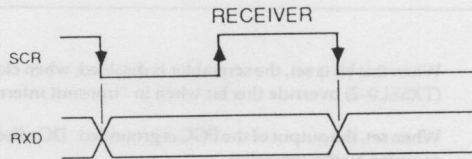

Figure 3. SC11026 Synchronous Mode Timing Diagrams.
**Case 1—SC11026 Provides the Timing to the Data Terminal Equipment (DTE). See Figure 3.**